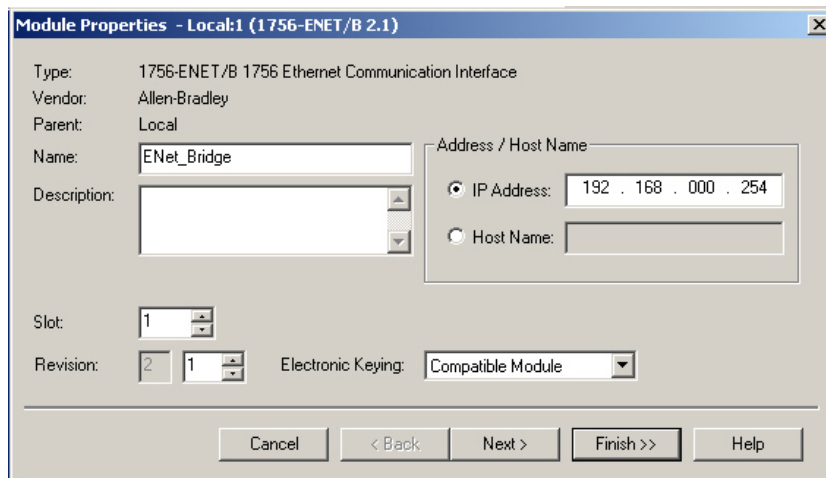

Figure 6.2 Setting Module Properties
- 3) Enter the following information in the *Module Properties* window that opens. All parameters not listed here are optional. Figure 6.2 shows a completed screen.
You will still have to set an IP address for the Ethernet Port if the port is built into your processor. Right click on the port name in the I/O Configuration screen and select “Properties”. A Module Properties window similar to the one shown in figure 6.2 will open. In this window you must set an IP Address for the port, *not* the IP address of the AnyNET-I/O Stack.